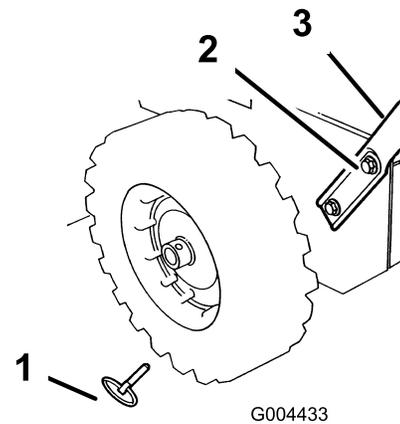

Figure 3
2. Remove the axle pins from both wheels and slide the wheels outward on the axle approximately 1 inch (3 cm) (Figure 3).
- Align the holes in the left side of the handle with the holes in the left side plate, and secure the handle with 2 cap screws and Belleville washers until they are finger tight (Figure 3).